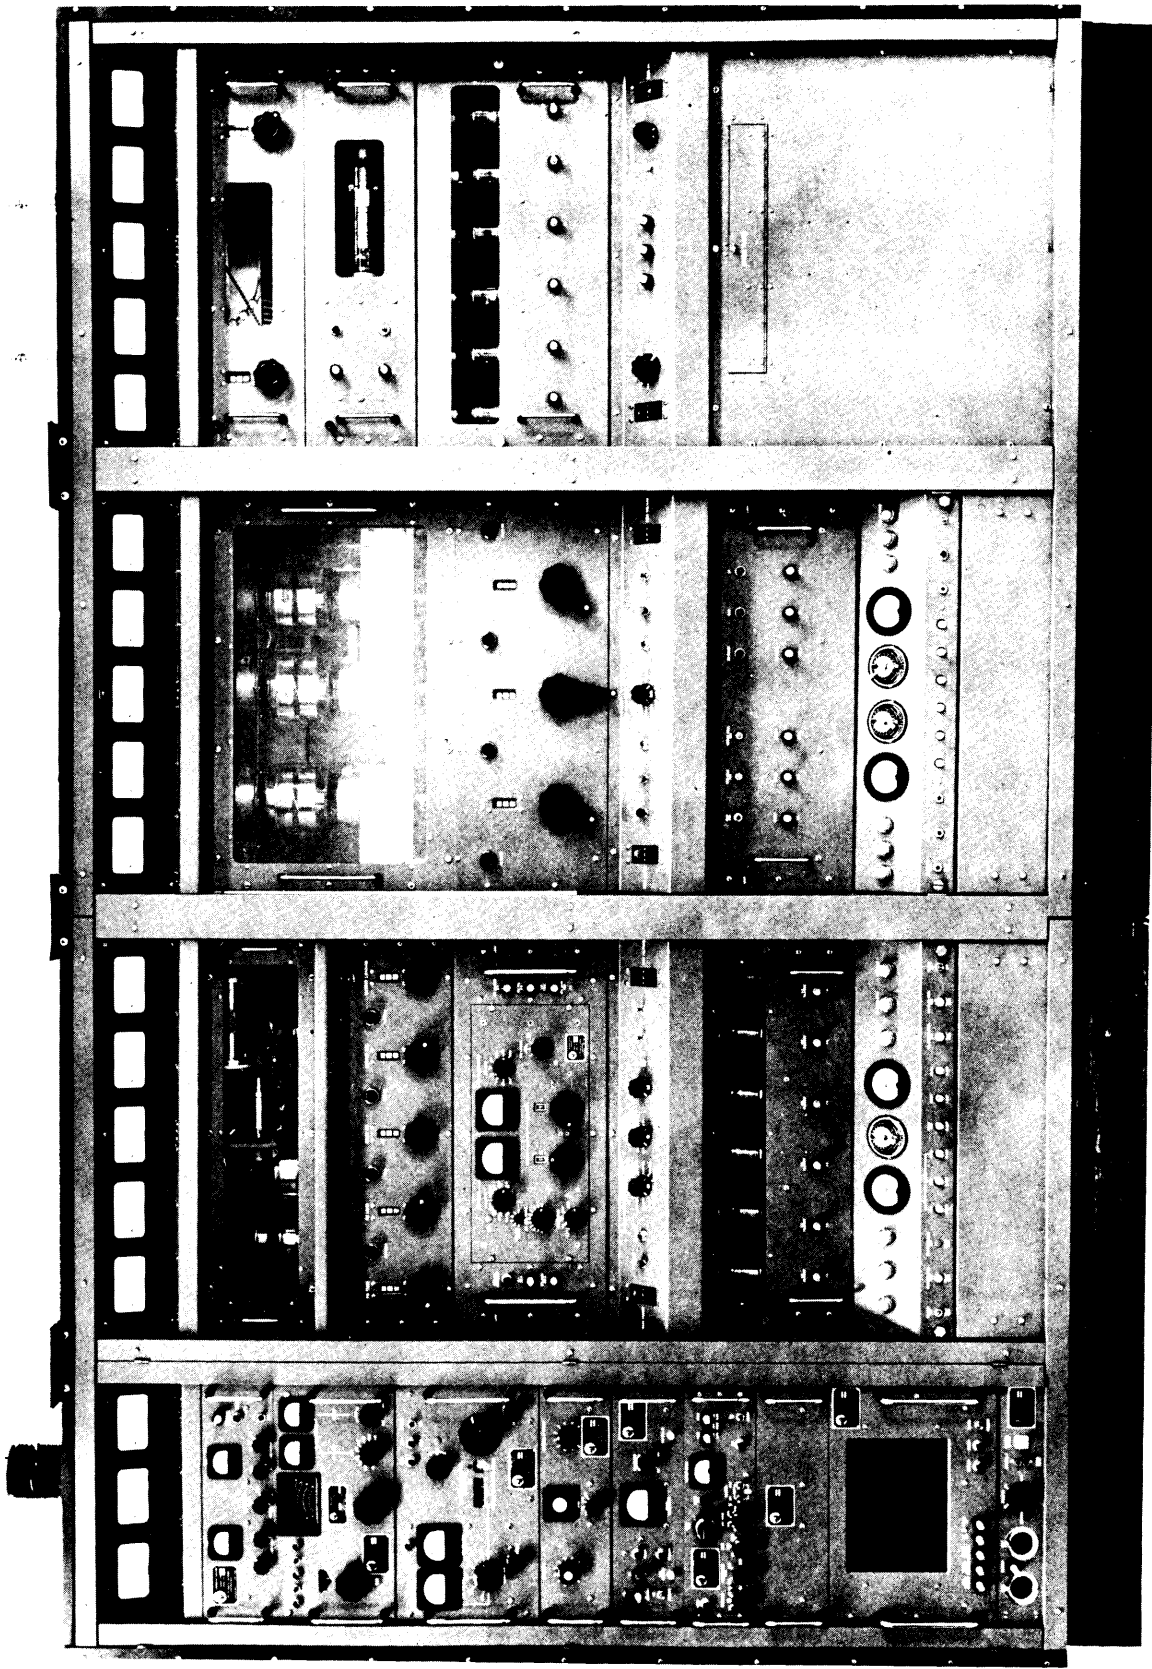

Figure 1. Synthesized GPT -40K Transmitter, Front View
The GPT-40K Transmitter (figure 1) is a conservatively rated general purpose transmitter that delivers 40,000 watts PEP (peak envelope power), or 20,000 watts average power, throughout the 2- to 28-mc range. The operating modes of the transmitter are:
a. GENERAL. - The GPT-40K transmitter (figure 1) consists of an auxiliary frame, a main frame, a power amplifier (PA) frame, and a power supply (PS) frame. All four frames are bolted together and to two base assemblies. One base assembly is common to the auxiliary and main frames, and the other is common to the PA and PS frames. The four frames house all the components of the transmitter and are equipped with protective front and rear doors. Primary power connections are made through the base assembly. Two antenna bowl assemblies, used for balanced output operation, are provided at the top of the PS frame. For unbalanced output operation, a coaxial connector is located on top of the PA frame.